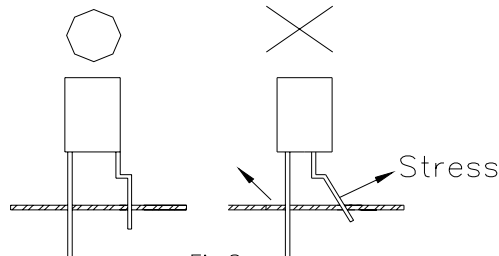

Fig. 8
- 3) Form the lead to ensure alignment between the leads and the hole on board, so that stress against the LED is prevented. (Fig.8)